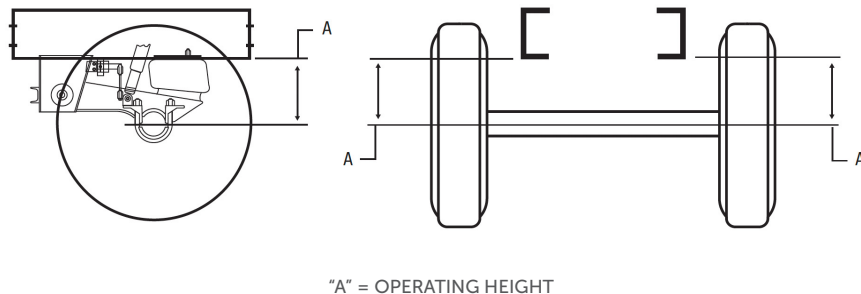

Figure 8
1. Place the suspension at the ride height specified in the suspension assembly drawing (see **Figure 8**). Adjust the skid, so that the trailer platform is or is relatively parallel to the surface where you are working.